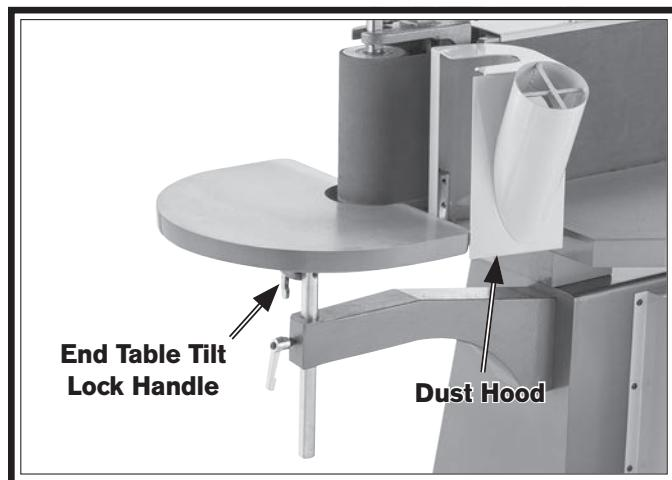

Figure 24. Location of end table tilt lock handle.
- If dust hood is in the way, loosen end table tilt lock handle (see **Figure 24**) to angle end table so it will fit past dust hood.